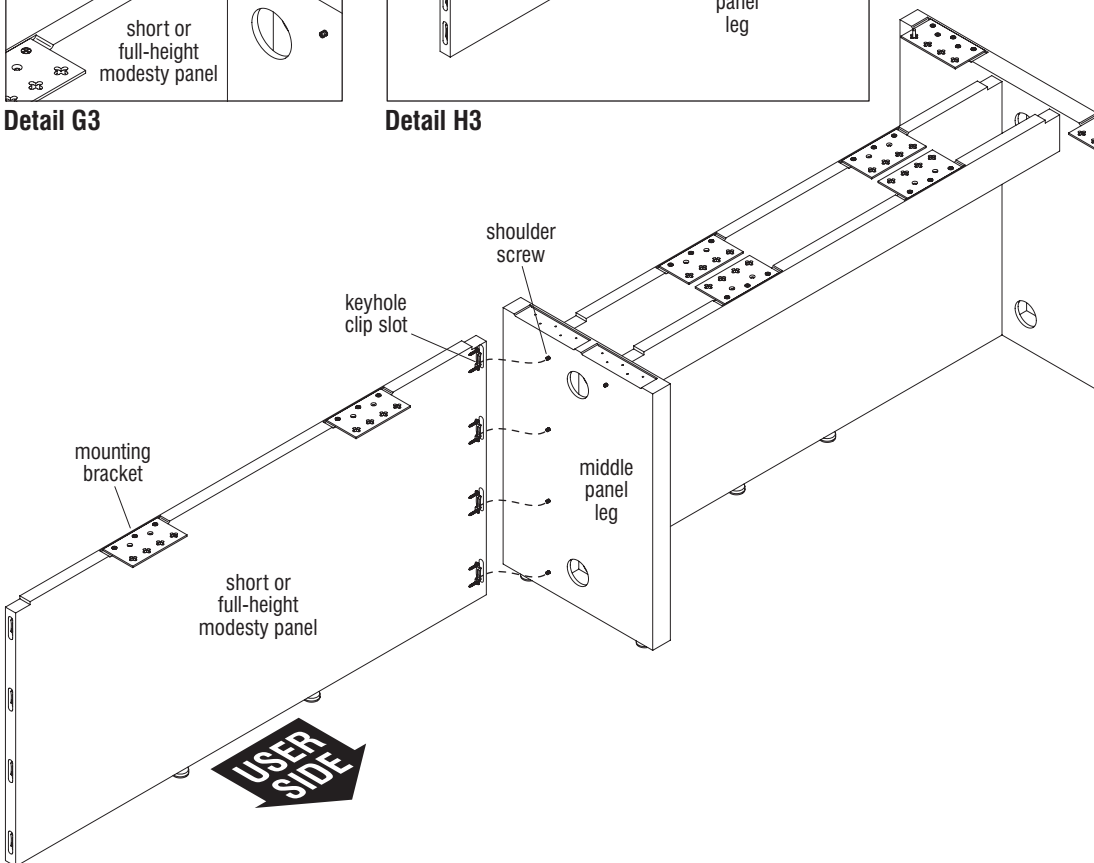

Figure 28
1. Orient the second modesty panel as illustrated, so the overhang of the installed mounting brackets face the front, "user side" of the table (Figure 28).